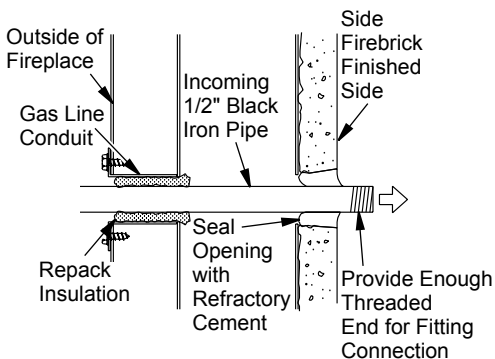

Figure 16 - Gas Line Installation
3. Run a 1/2" black iron gas line into fireplace through the rear at gas line conduit sleeve (if using a raised platform, add height). Provide sufficient gas line into fireplace chamber for fitting connection (**see Figure 16**).